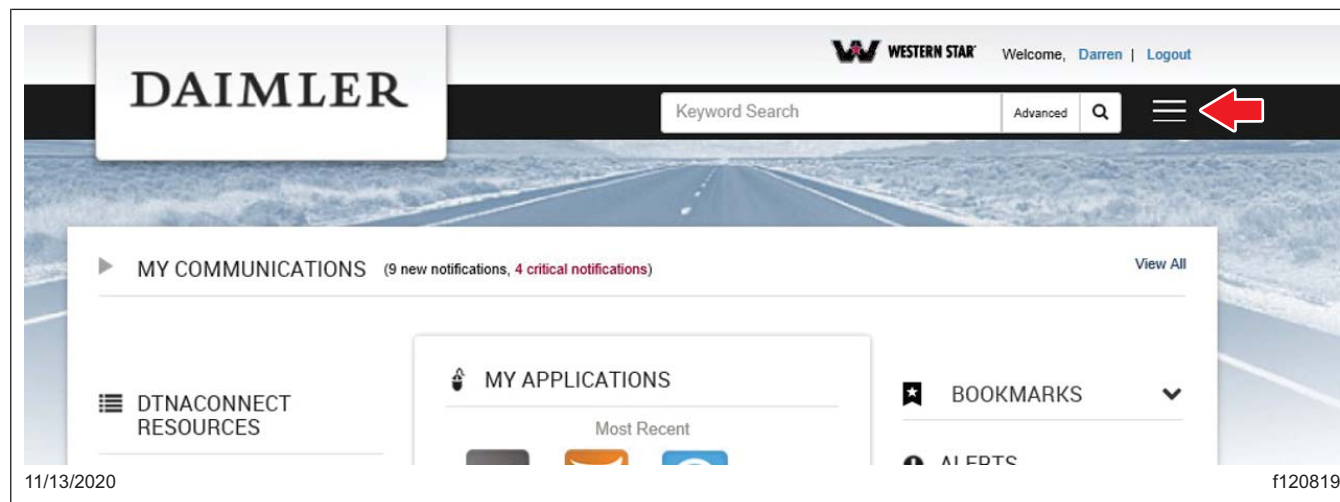

Fig. 3, DTNA Connect Home Screen
- On the laptop, go to DTNA Connect, then select the three menu bars at the upper right-hand corner of the web page. See Fig. 3.